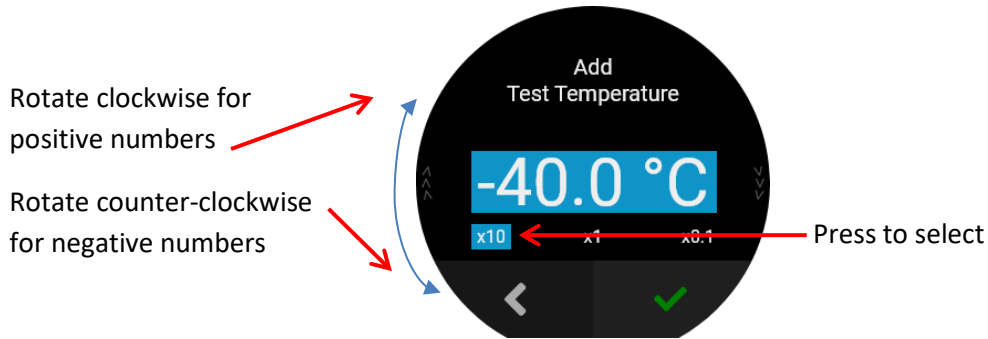

Figure 38: Add Test Temperature Screen with Tens Digit Selected
29. Select tens digit by tapping **x10**. Then, rotate dial to your desired test temperature. Rotate clockwise for positive temperatures and counter-clockwise for negative temperatures. See Figure 38.